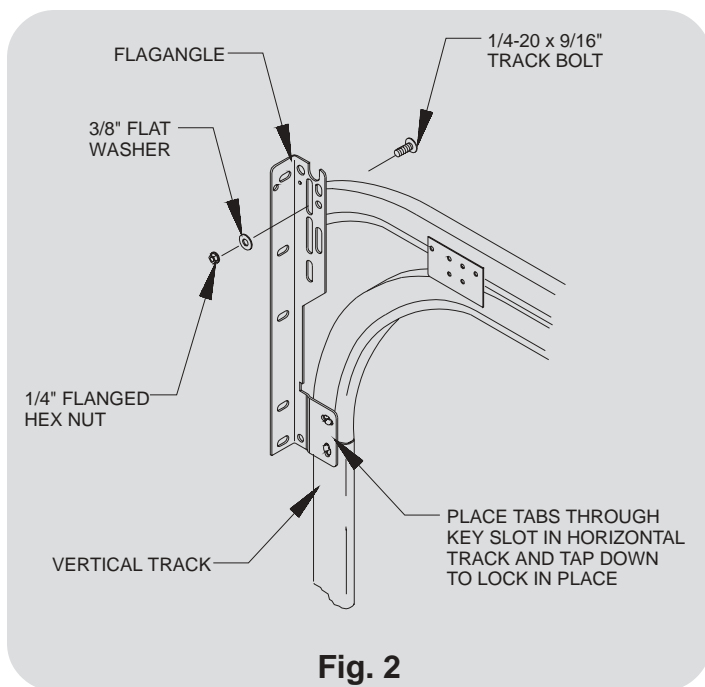

Fig. 2
Place the horizontal tracks over the top of the previously installed vertical tracks as shown in **Fig. 2**. Locate the keyslot in the track over the Twistlock™ tabs on the flagangles. Hold the parts together and tap down on the track to lock into place. Place (1) 1/4-20 x 9/16" track bolt through the slot in the end of the top curve and the appropriate slot in the flagangle, then secure with a 3/8" flat washer and flanged hex nut (do not fully tighten). Level the horizontal track, then tighten the bolt in the top curve.